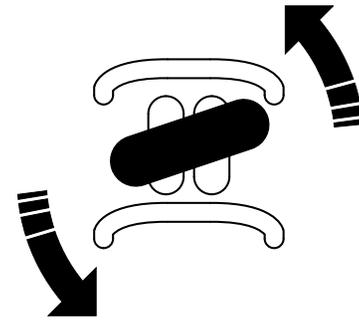

Figure 17
- To turn left, rotate the traction control counterclockwise (Figure 17).